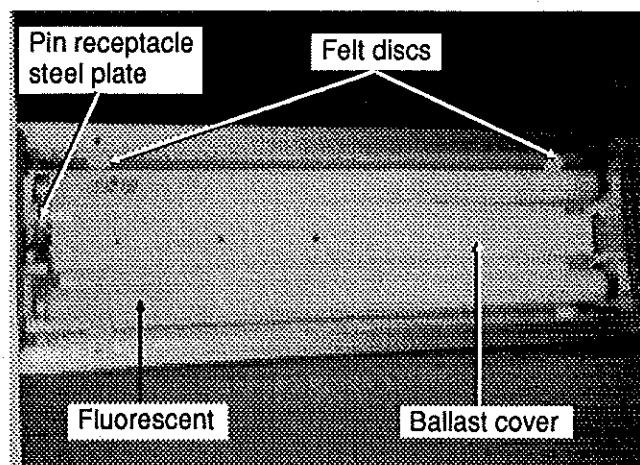

Fig. 15 - Lavatory fluorescent lamp assembly
2. Unsnap defective fluorescent tube by pushing its both extremities simultaneously against felt discs (see fig. 15).